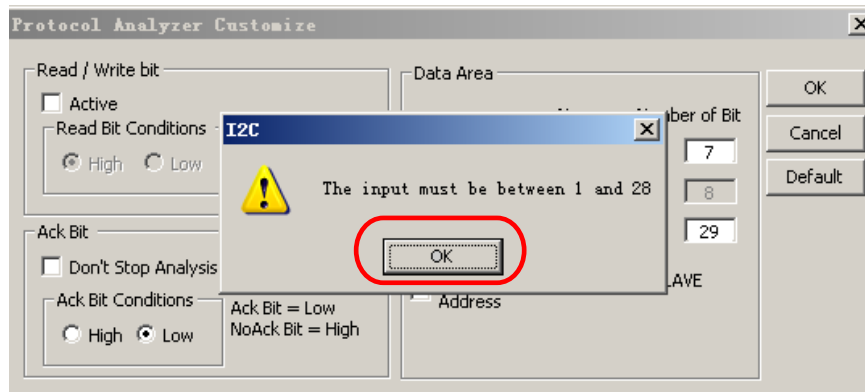

Fig 4-66 – Inputting Data Bits
Step7. Click **Custom Setting** to define the I2C Data to meet users' requirements. The dialog box as shown in Fig 4-66 will be displayed.